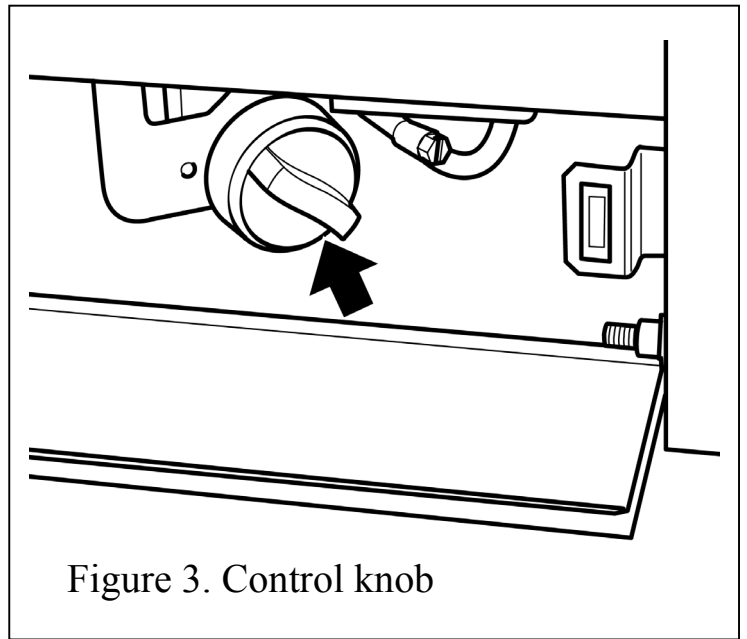

Figure 3. Control knob
▶ Depress the control knob and turn anticlockwise towards the PILOT/IGN position (See figure 3). A spark should be generated at the pilot while turning. The spark should ignite the pilot. The pilot flame can be seen at the left side of the pebbles.